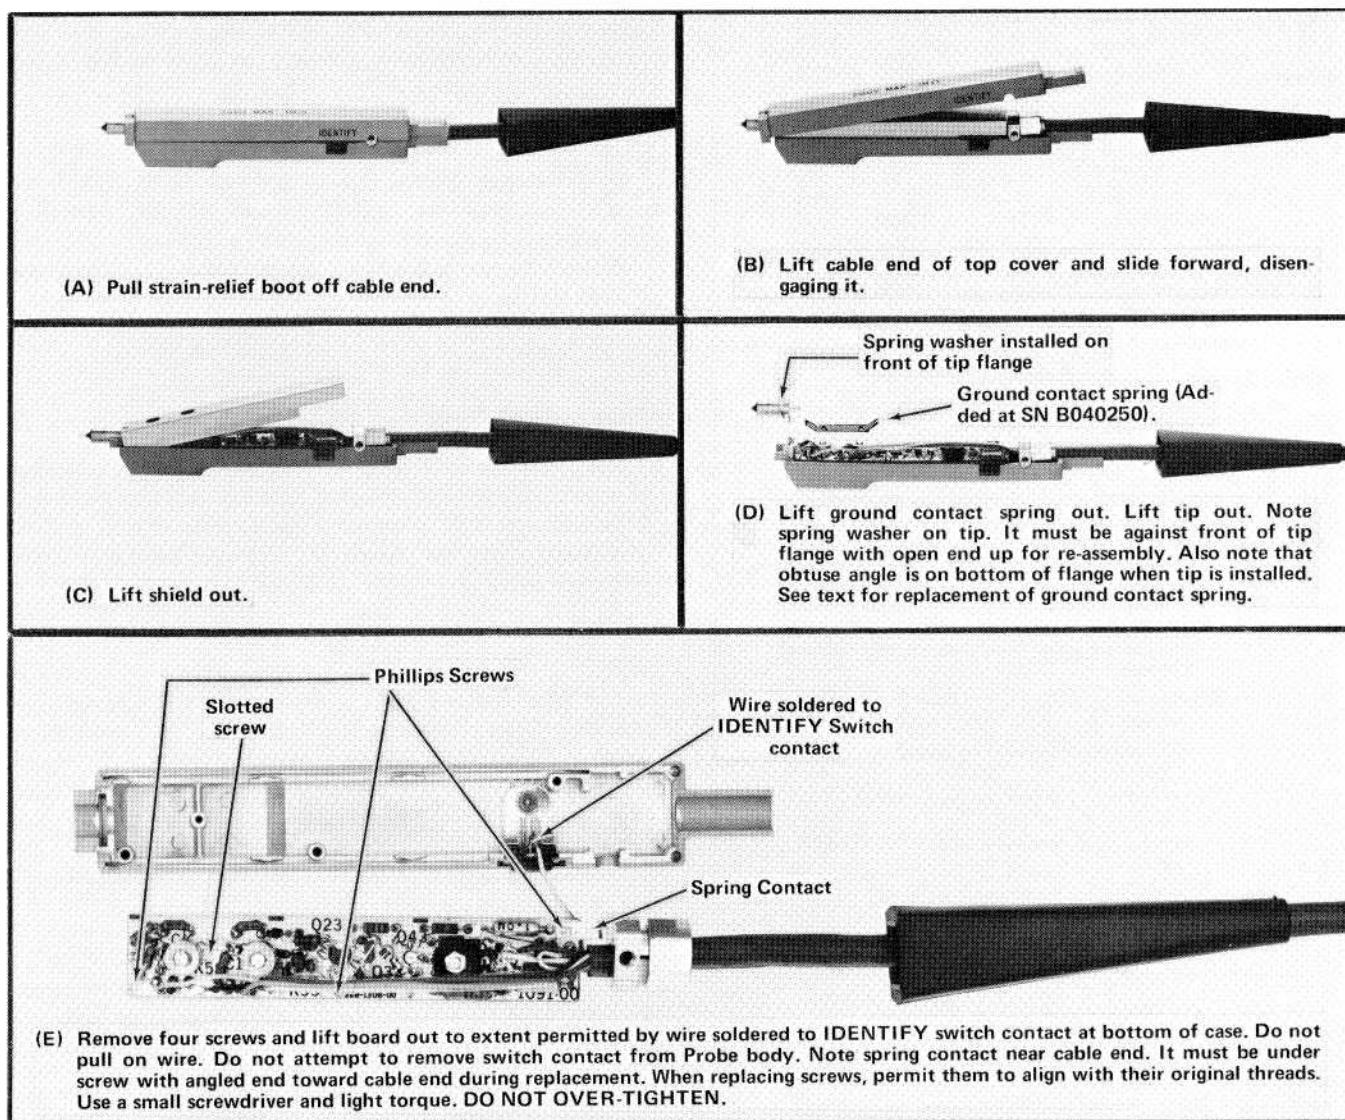
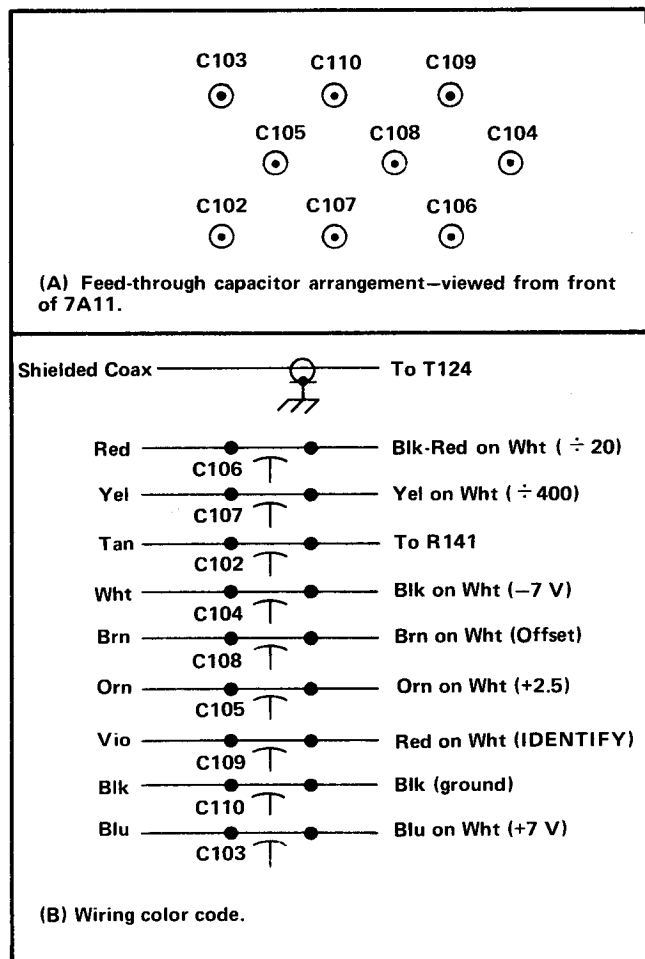

Fig. 4-4. Probe dis-assembly. Reverse the procedure for re-assembly.
Fig. 4-5. Probe cable connections within Plug-In Unit.
Probe disassembly and assembly instructions are provided in Fig. 4-4. Component locations and wire connections appear in Fig. 4-5 and 4-7. Because of size, voltage requirements and frequency requirements, it is recommended that Probe repairs be referred to a Tektronix Repair Center. When repairs are made, the following precautions must be observed regarding the Probe:
(4) Soldering on the board must be done quickly and neatly, using a 15 watt iron, a 3/64 inch nickel-plated tip, and common electrical solder. One exception to this is when soldering the Cable Tiedown Strap in place. Then a 40 watt iron with a 3/16 inch tip should be used. Heat the iron thoroughly; then solder quickly to avoid damage to either the board or the cable dielectric material. All solder connections should be checked under a magnifying glass, looking for poor connections, short circuits and damaged components.
(5) Water-soluble detergents, ethyl alcohol, methyl alcohol, or isopropyl alcohol are recommended for cleaning the board, if cleaning is necessary. **Other materials may damage the circuit board and should not be used.**
(6) During re-assembly, install the spring washer and spring contact in place properly, as noted in Fig. 4-4.
(7) When screws are re-installed, they should be threaded into the original female threads. Excessive tightening of the screws should be avoided. Use a screwdriver which has a small diameter handle, and use very light torque.